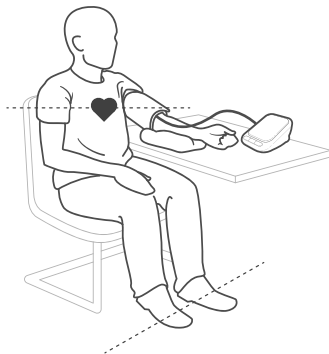

Figure 2.1
- Sit on a chair with your feet flat on the floor and your arms on the table so the cuff is level with your heart. *[Figure 2.1]*